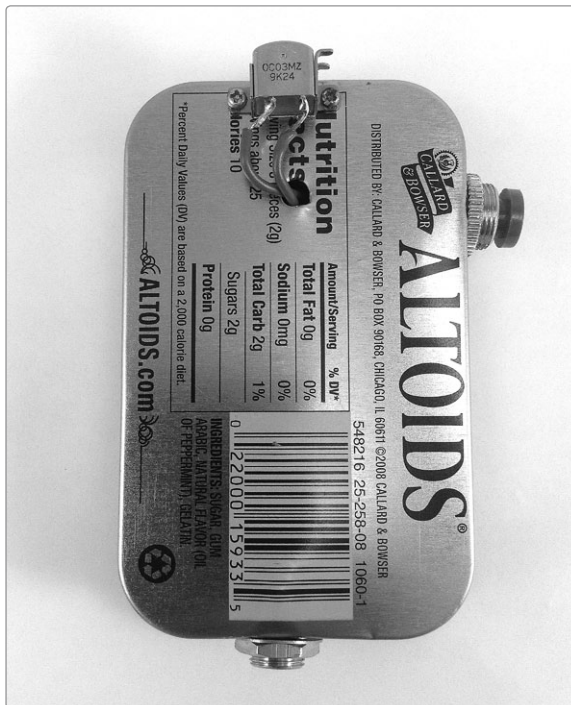

FIGURE 5-12: The back of the finished Scratchbox, showing the mounting of the tape head
Step 12 Finally, mount the play head firmly to the outside of the enclosure using the two screws you salvaged in Step 2, as shown in Figure 5-12.
FIGURE 5-13: *The guts of your completed Scratchbox. (The play head, which is mounted to the back of the tin, isn't visible. Flip back to Figure 5-12 to see how that fits onto the case.)*